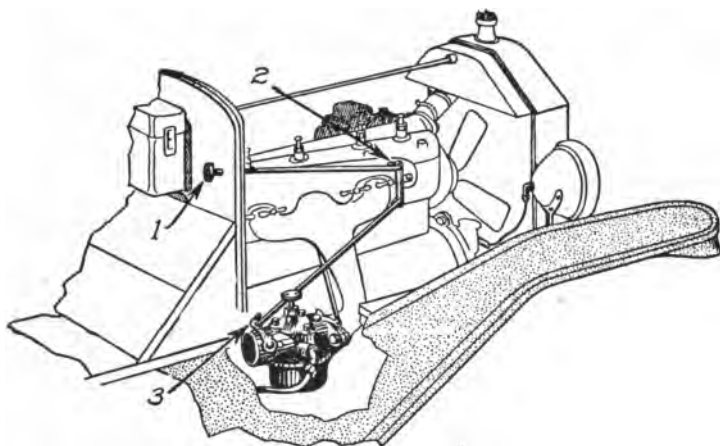

Fig. 376. Replacement of Carburetor Timing Rod on Dash
*Priming Device.* Connect the priming device 1, Fig. 376. Drill a  $\frac{7}{32}$ -inch hole in the dash two inches to the right of the coil box and six inches above the toe board and pass the upper rod through. Connect the lever arm 2 vertically to the foremost exhaust manifold bolt with stationary member in horizontal position; then connect the lower rod 3 to the carburetor priming lever. Work it back and forth several times to make sure that it returns to normal position when released.